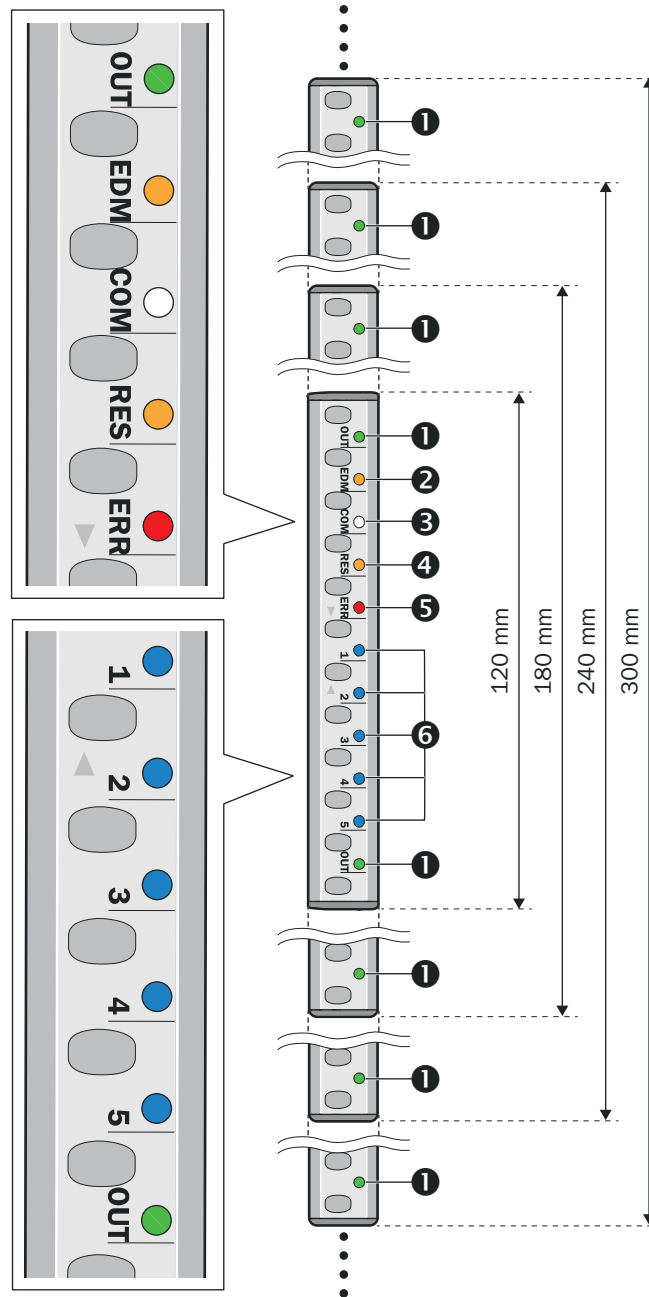

Figure 7: LEDs on the twin sticks
- ① OUT
- ② EDM
- ③ COM
- ④ RES
- ⑤ ERR
- ⑥ 1, 2, 3, 4, 5
figure 7 shows the LEDs of the safety light curtain. The OUT LED (①) is mounted at regular intervals above a protective field height of 180 mm and can light up red or green. It is only labeled OUT in two locations on the safety light curtain.